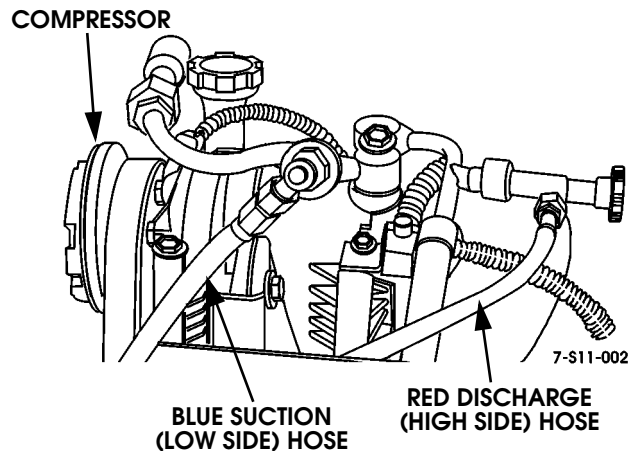

Figure 11-12: Service Hose Connections at Compressor
1. Connect gauge hoses on service cart J-39500-A to service ports on suction and discharge lines (Figure 11-12). Red hose goes to high side (discharge) port and blue hose to low side (suction) port.